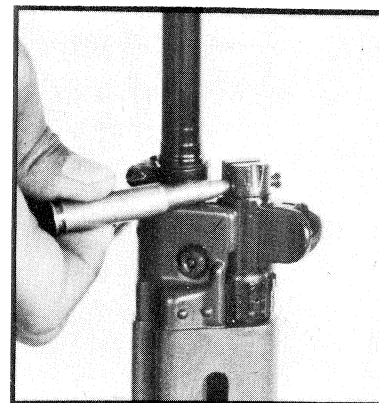
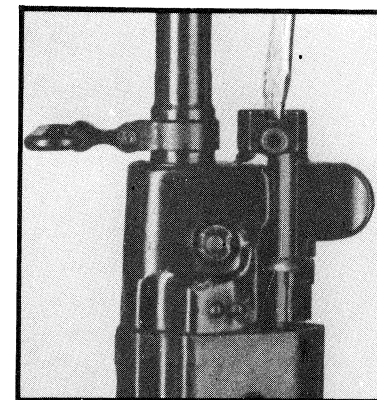

Fig.41
Fig.42
e) **Remove gas plug** — Using the point of a cartridge, depress gas plug lock (fig. 41), rotate the gas plug one quarter of a turn clockwise (fig. 42).